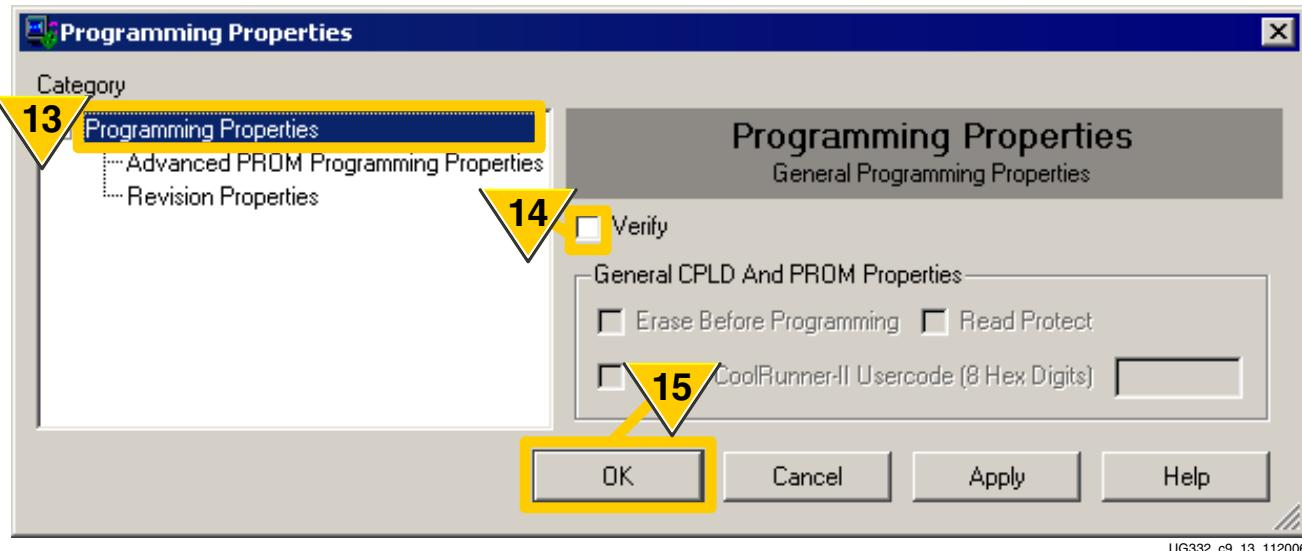

Figure 9-15: FPGA Programming Options
- The **Programming Properties** dialog box appears, as shown in Figure 9-15.